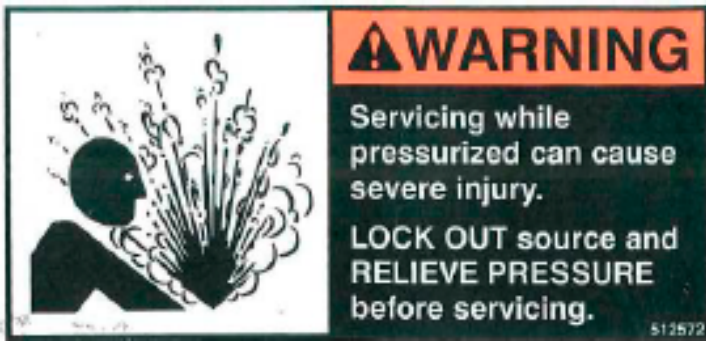

FIGURE 3-6
1. Always relieve all hydraulic pressure of the base machine by working the controls in all directions with the engine off before beginning work on any hydraulic component. See Figure 3-6.